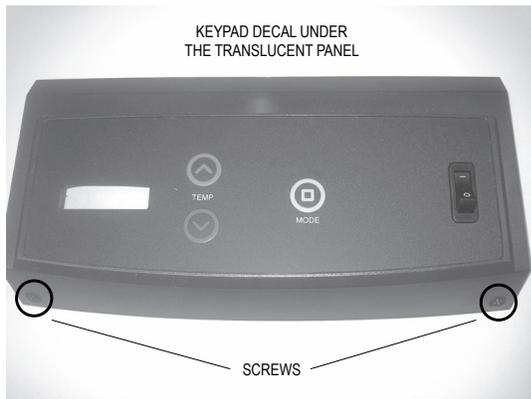
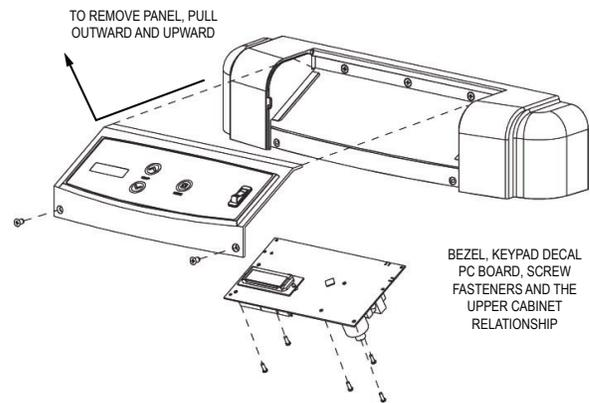

Figure 2. Screws Location
Figure 4. Bezel, Keypad and PC Board
6. Locate the two (2) #6 x 3/8" screws that hold the bezel with the control panel to the front of the heater and remove them (see **Figures 2** through **Figure 4**).
7. Pull the panel backward and upward to access the PC Board beneath it (see **Figure 4**).